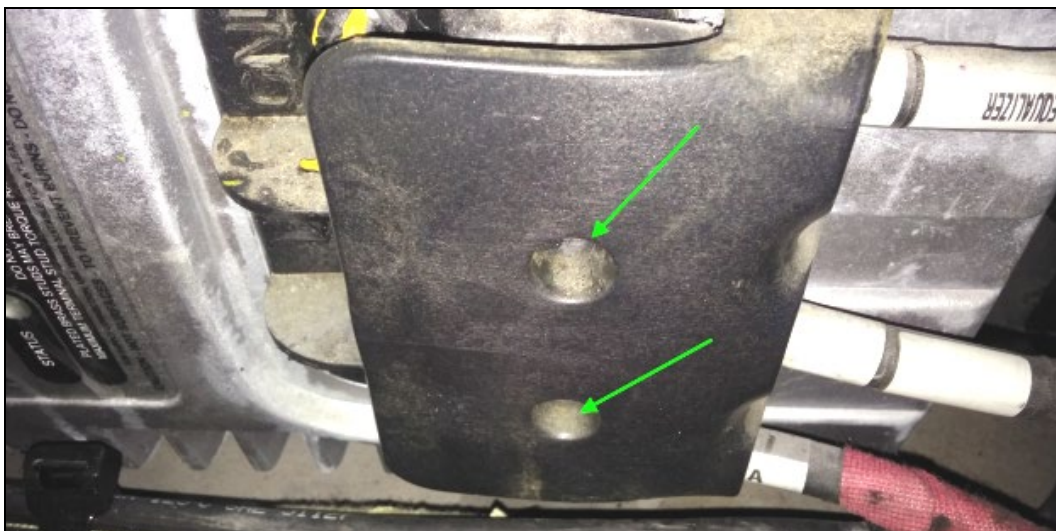

Fig.6 Equalizer wire cover screw location
- Remove the equalizer wire cover (two Phillips head screws identified by arrows in Fig.6 below).